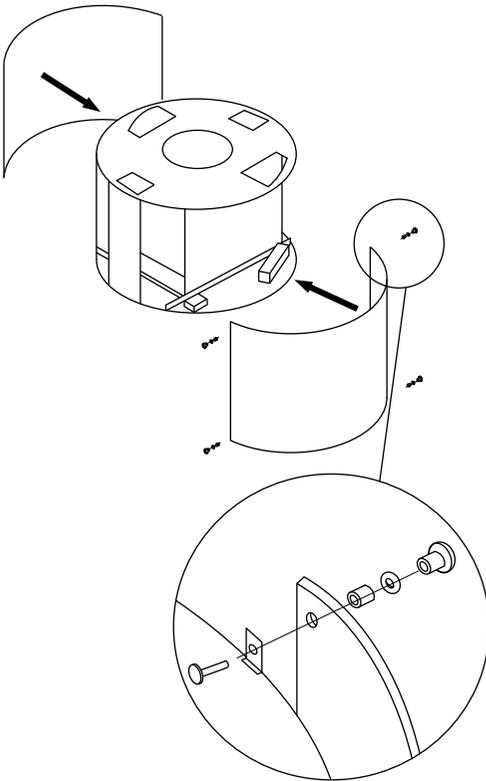

Fig 9
7. Attach the glass panels to the Nabucco (Fig 9).